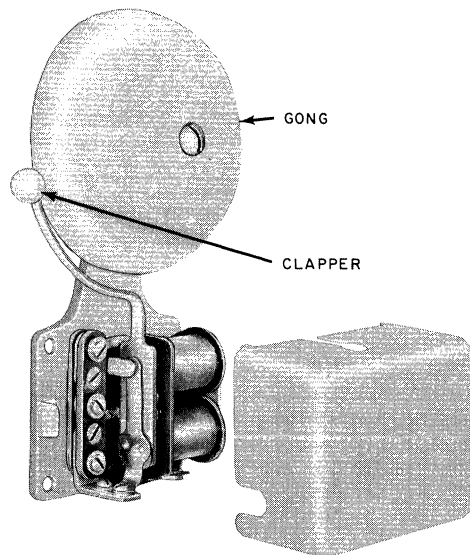

Fig. 2—7-Type Bell
2.04 The 7F buzzer (A&M Only) (Fig. 1) and the 7-type bell (Fig. 2) have the same design features except the bell is equipped with a clapper and 3-inch gong.